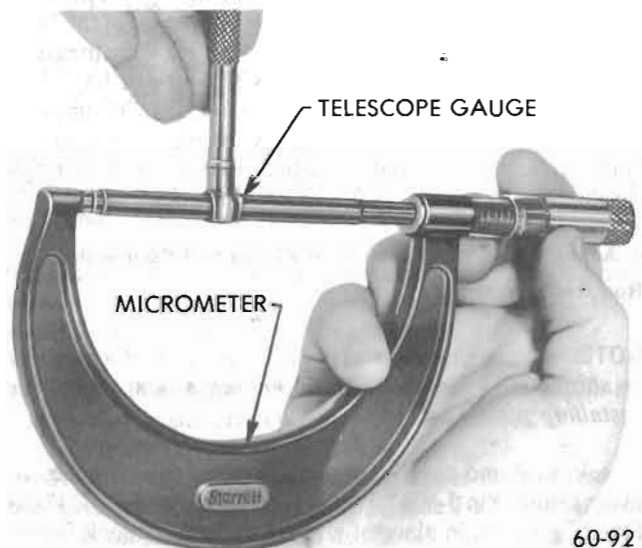

Figure 60-99 - Measuring Telescope Gauge
2. Measure the telescope gage. See Figure 60-99.